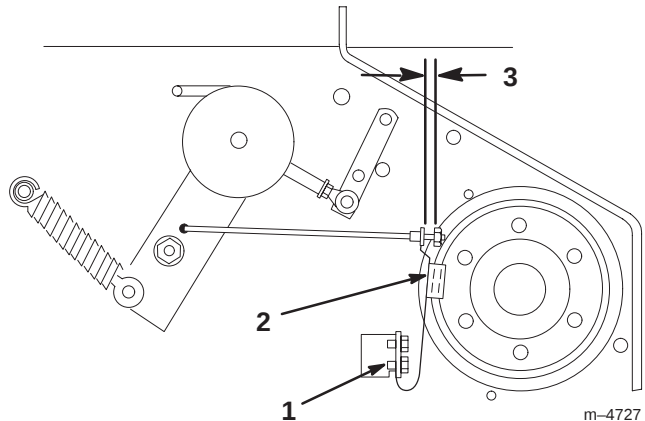

Figure 60
3. If necessary, adjust the spring mounting bolts so that the blade brake pad rubs against the pulley edges (Fig. 60).
4. Adjust the nut at the end of the blade brake rod until there is 1/8–3/16 in. (3–5 mm) between the nut and the spacer (Fig. 60).